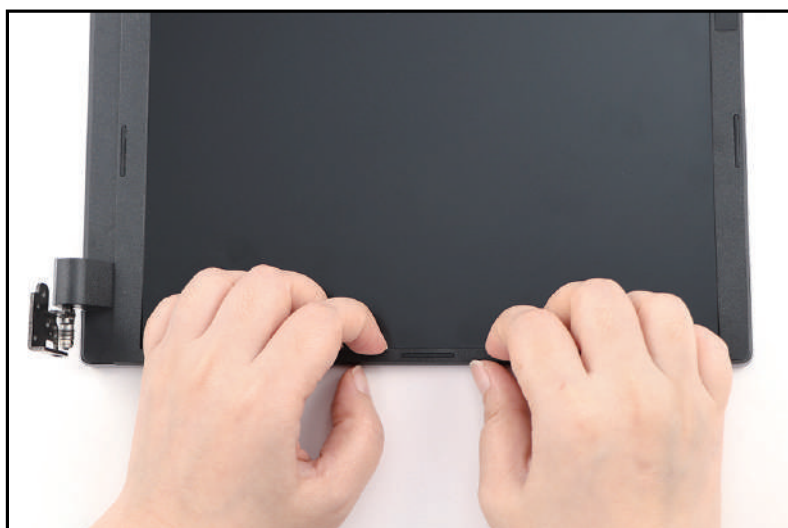

Figure 3-72. LCD Bezel Removal
2. Pry the LCD bezel from the right side to release the latches (Figure 3-72).